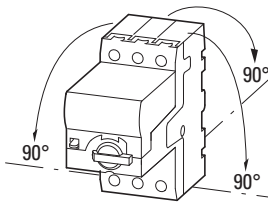

Figure 19: Approved mounting position for PKE motor-protective circuit-breakers
- ▶ Mount the motor-protective circuit-breaker only as shown in Figure 19.